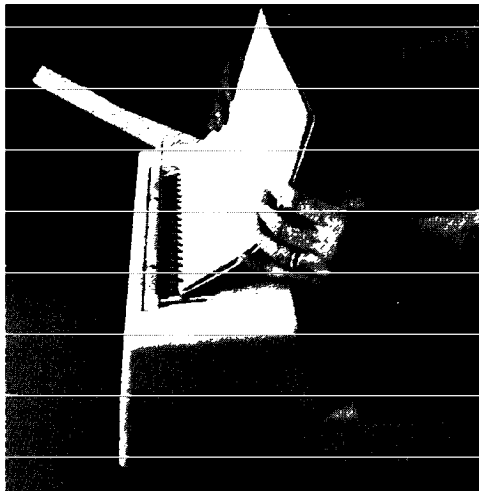

Figure 4.10
4. Pick up a punched book. Holding the book firmly in your left hand WITH YOUR FINGERS ON THE BACK COVER OF THE BOOK AND YOUR THUMB ON THE FRONT COVER, insert the punched book vertically into the area of the open rings of the binding element (Figure 4.10). THE FRONT COVER SHOULD ALWAYS FACE YOU when book is in the vertical position. Align the holes in the book with the tips of the plastic rings. Rotate the book toward you and down to allow the rings to enter the punched holes of the book.